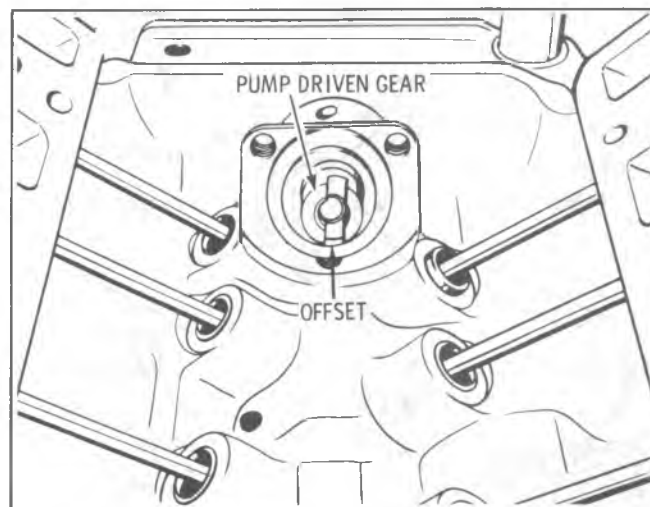

Fig. 6A6-24--Offset on Pump Driven Gear
2. Position engine on #1 cylinder T.D.C. Align mark on balancer with zero mark on indicator. Refer to Fig. 6A6-24 for position of injection pump driven gear. (The index